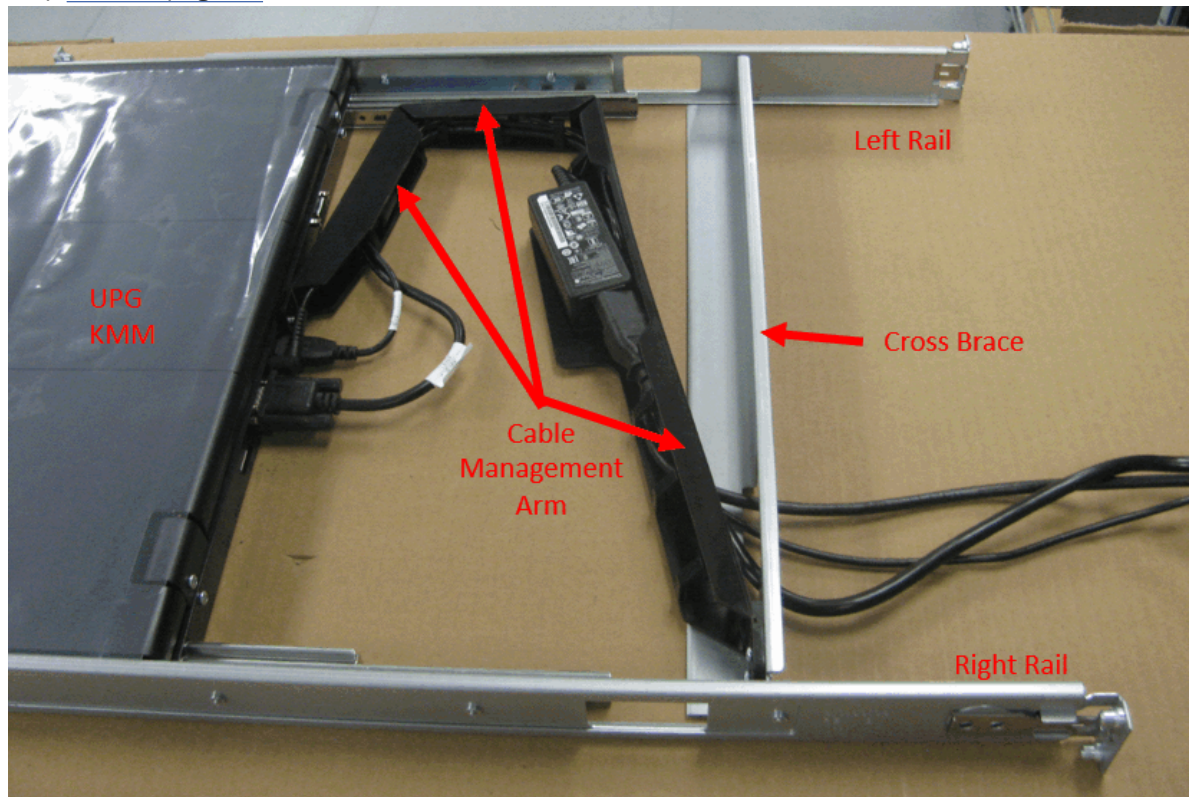

Figure 10. KMM rail assembly with cable management arm, cross brace, and cables installed
- ___ 9. Before continuing to the next step, refer to Figure 10 on page 98, which shows the KMM rail assembly with the cable management arm, cross brace, and cables installed. Use this figure as a reference as you complete the KMM and rail assembly installation (step "10" on page 98 through step "13" on page 99).